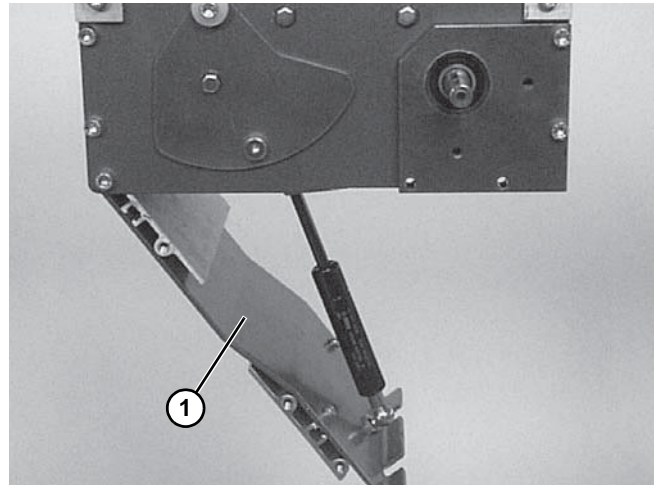

Figure 73
- Carefully close the drive module tension door (**Figure 73, item 1**). See WARNING.